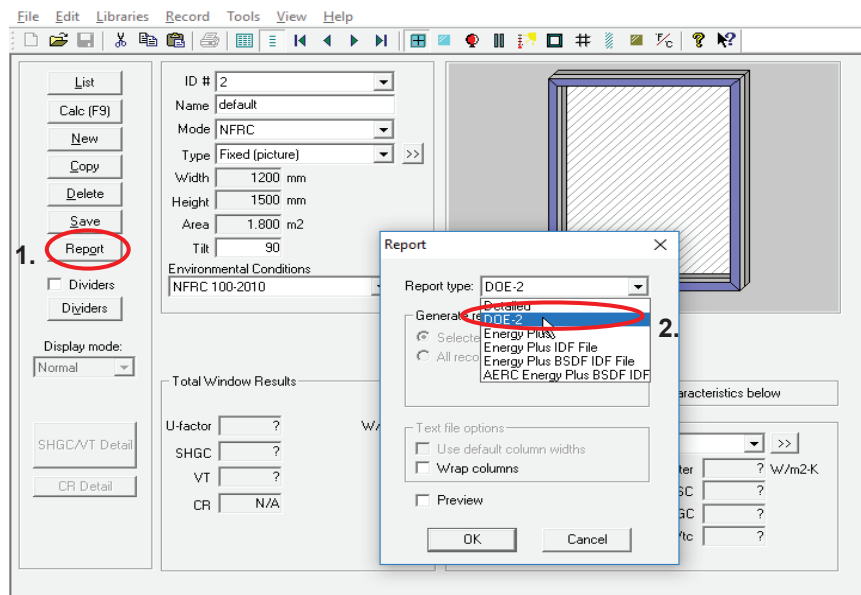

Figure 9-255: Output Window Information as DOE-2 Report
- In the Window dialog, click the Report button (see Figure 9-255, Step 1) to output all necessary information. (Note: If you created more than one window, you can output several windows into one report by using the List view, marking multiple windows (Ctrl + click) and then clicking the Report button)